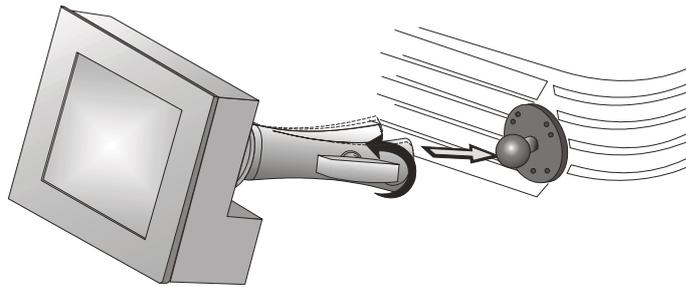

Figure 2-3
1. Loosen the mounting arm just enough for the end to fit over the ball joint located on the rear panel of the projector. **Figure 2-3**